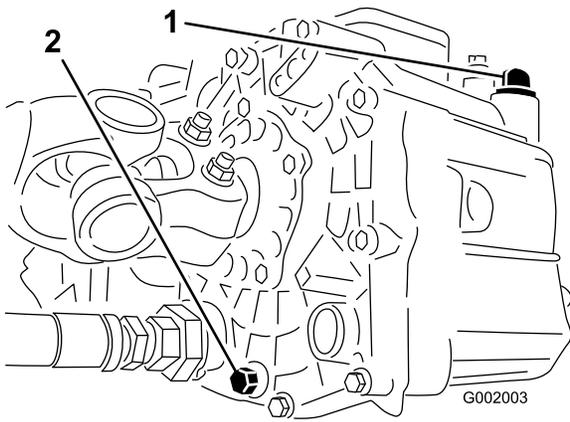

Figure 56
3. Remove the drain plug from the side of the reservoir, and let the hydraulic fluid flow into the drain pan (Figure 56).